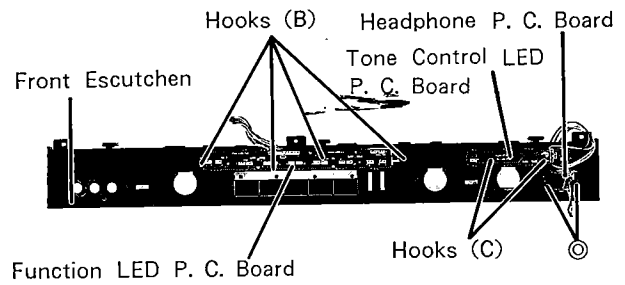

Figure 7
(1) After removal of Front Escutcheon, remove four hooks (B) as shown in Figure 7.
(1) After removal of Front Escutcheon, remove two hooks (C) as shown in Figure 7.
- (1) After removal of Front Escutcheon, remove two screws marked "◎" as shown in Figure 7.